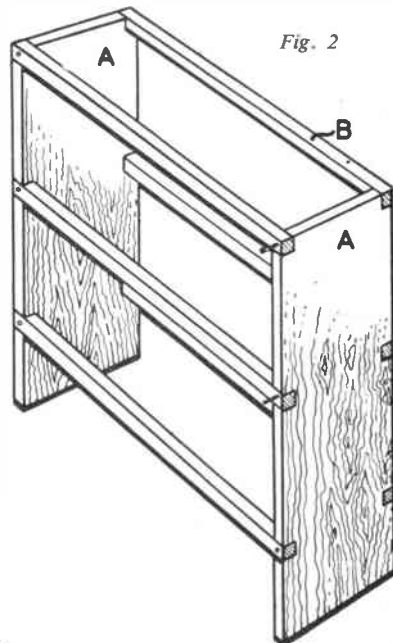
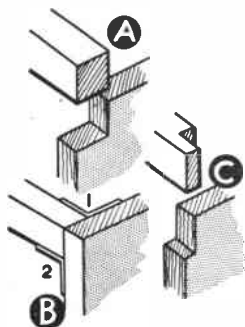

Fig. 2
Fig. 3
The rails are slotted into the ends as shown in Fig. 2. Three methods of fixing are shown in Fig. 3. Note that at B the rail is secured by an angle plate in position 1 or 2. Continue by pinning the back (C) in place as shown in Fig. 4.